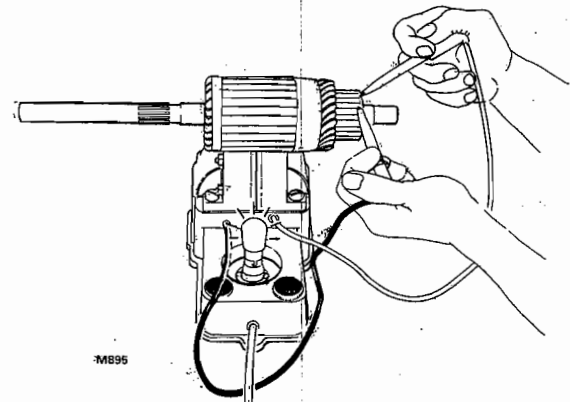

FIG. 4. CHECKING ARMATURE FOR CONTINUITY
7. Check the armature for continuity using a growler, see Fig. 4, and test all commutator bars. If the light illuminates the armature is earthed and must be renewed.